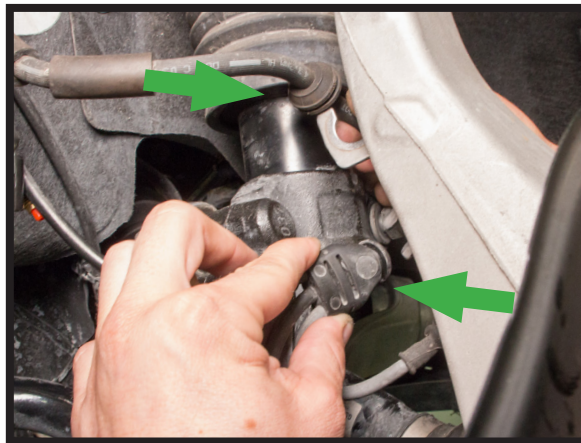

FIGURE 29
6. INSTALL THE RUBBER GROMMETS ONTO THE SPINDLE ASSEMBLY. (FIGURE 29)